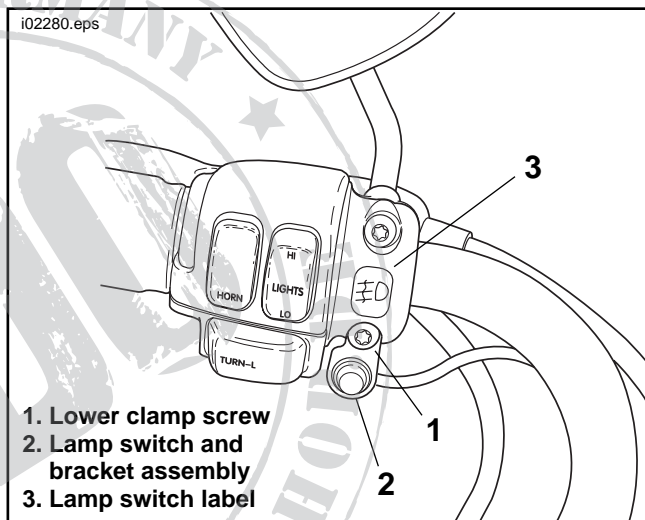

Figure 6. Install the Lamp Switch on the Clutch Control Clamp (1996 and Later Shown)
16. See Figure 6. Remove the lower screw (1) and washer from the clutch control clamp, and install the lamp switch and bracket assembly (2). Install the screw and washer and tighten to 60-80 **in-lbs** (7-9 Nm).
**For International Applications:** Place the fog lamp switch label (3) on the clutch control clamp.